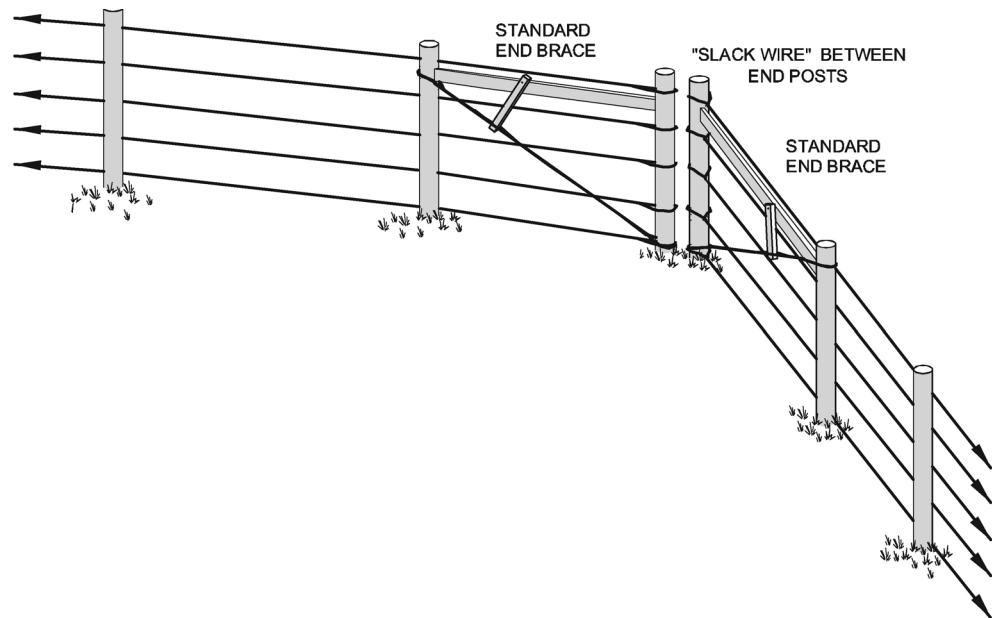
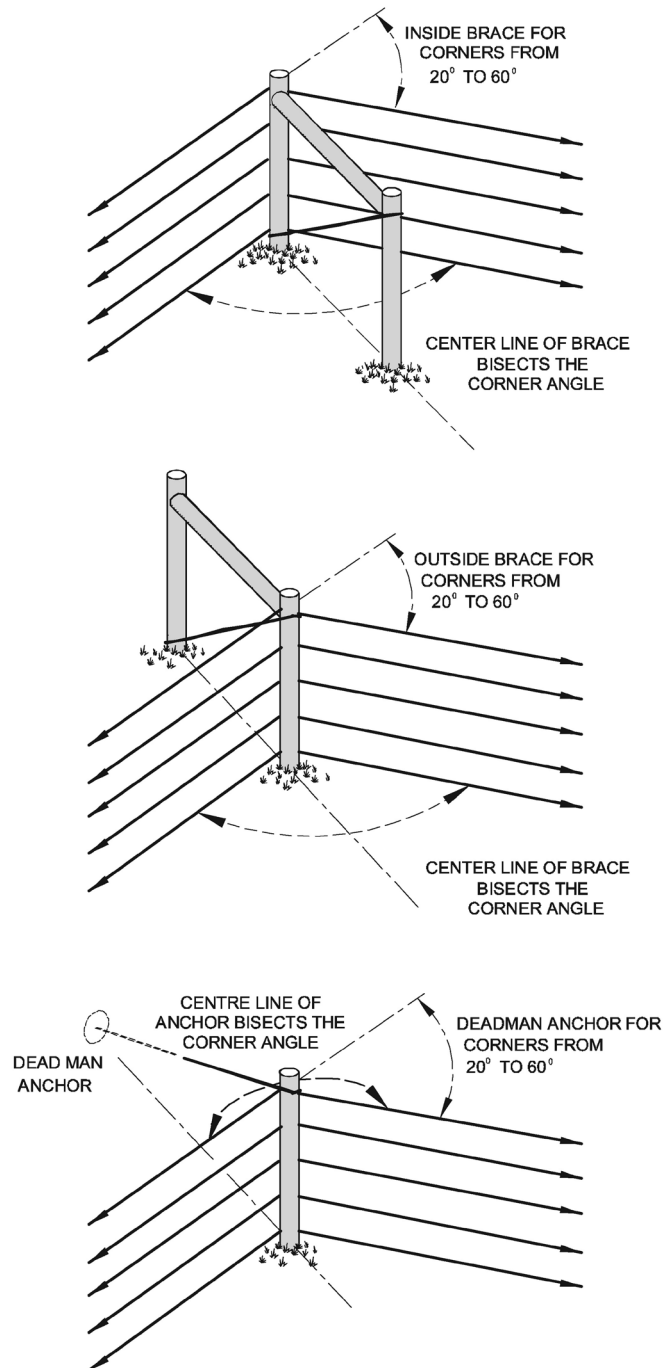

Figure 13 Separate Braces at a Tie-Off Corner (changes less than 60°)
Figure 15 Change of Direction Braces (for changes less than 60°)
If it's appropriate to tie the fence wires off a **separate** end brace can be constructed for each fence section as in Figure 13 below. Rather than 'share' a common tie off post, each section is tied off to a separate end post producing no forces out of line with the braces. This requires an extra driven post per corner and 'slack' wiring the opening between posts but ensures a stable corner.
- for corners less than 60° use either separate corner posts, Figure 13, or brace the corner post, Figure 15
Often the fence change of direction occurs when it is not appropriate to tie off the fence wires (i.e. less than the 660 feet or 1320 feet rule for tensioning wire). Rather than have many short sections of fence, the wires can continue around the change of direction post provided the post can be adequately supported and special stapling methods are used. Figure 15, below, illustrates three possible braces. Refer to Factsheet 307.100-2 **Fence Wire: - Dispensing, Stapling, Joining, Tying, Tensioning and Grounding** for wire tie-off distances and special stapling methods.